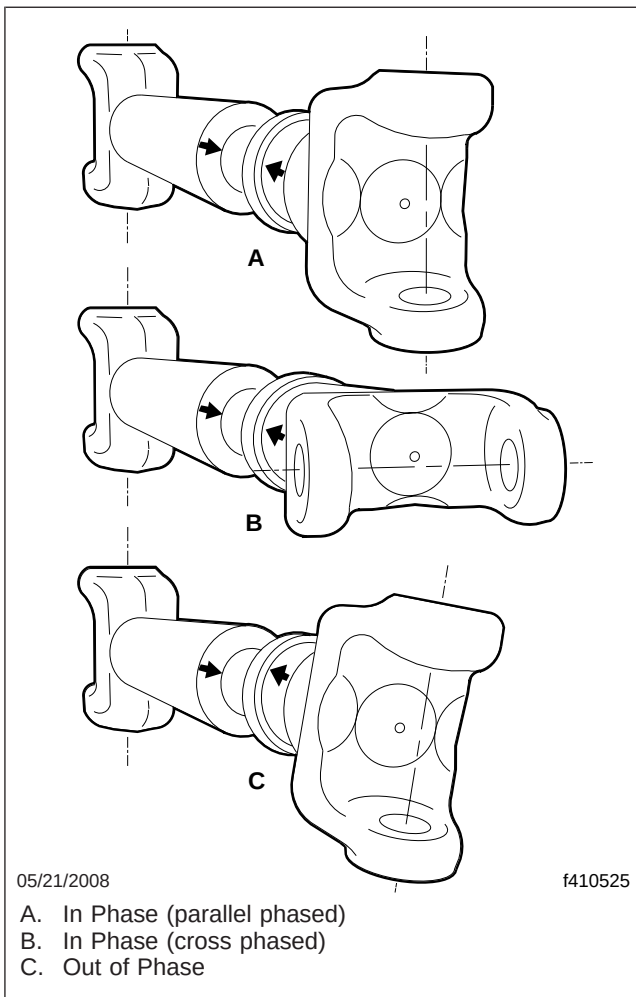
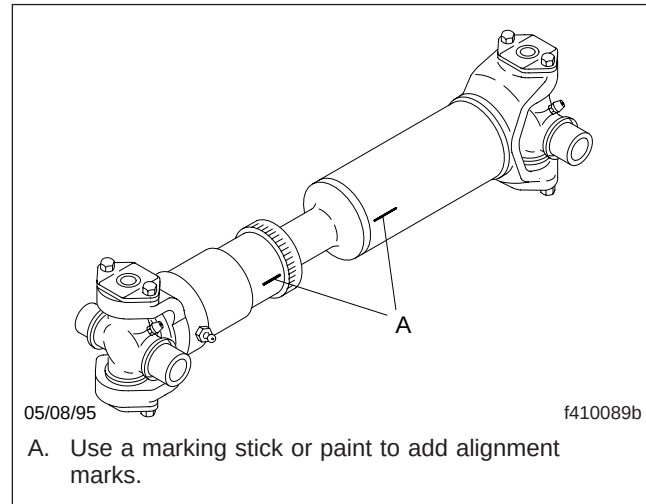

Fig. 4, U-Joint Phasing
Fig. 5, Slip-Joint Alignment Marks
3. Insert the splined shaft in the sleeve-yoke, so that the alignment marks are aligned, and the U-joints at each end of the driveshaft will be in phase. See Fig. 4 and Fig. 5.
5. Insert the splined shaft in the sleeve-yoke so that the alignment marks are aligned, and the U-joints at each end of the driveshaft will be in phase. See Fig. 4 and Fig. 5.
2. For a No. 2 or No. 3 driveshaft, check that the slip-joint alignment marks are aligned, so that the U-joints at each end of the driveshaft will be in phase. See Fig. 4 and Fig. 5.